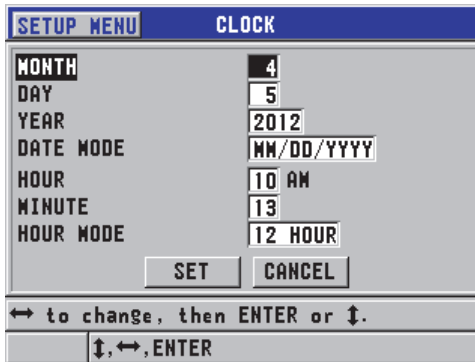

Figure 4-3 The CLOCK screen
3. In the **CLOCK** screen (see Figure 4-3 on page 55), set the parameters to the current date and time.